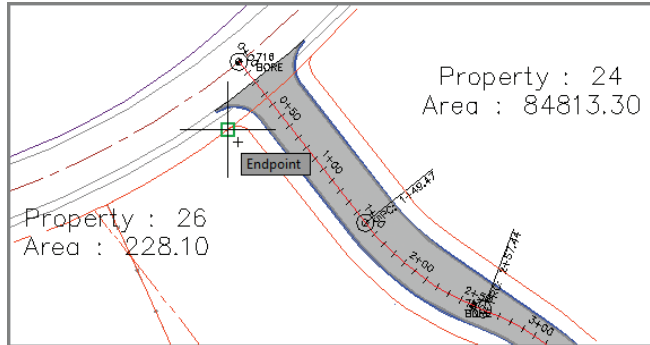

FIGURE 12.13 Selecting the beginning point of the frontage
4. When you're prompted for the start point of the frontage, snap to the endpoint of the right-of-way line at the entrance of Jordan Court, as shown in Figure 12.13.